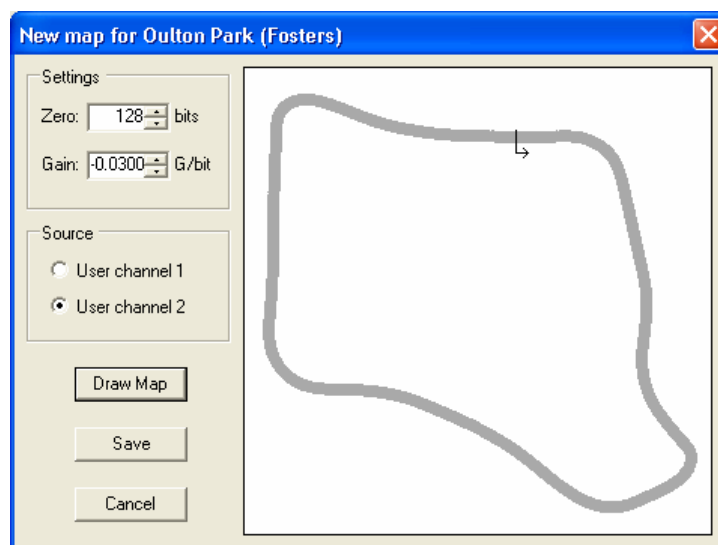

Figure 20 - New Circuit Map Dialog
2. Choose **Map** → **New** from the main menu. The New Circuit Map dialog (Figure 20) appears.